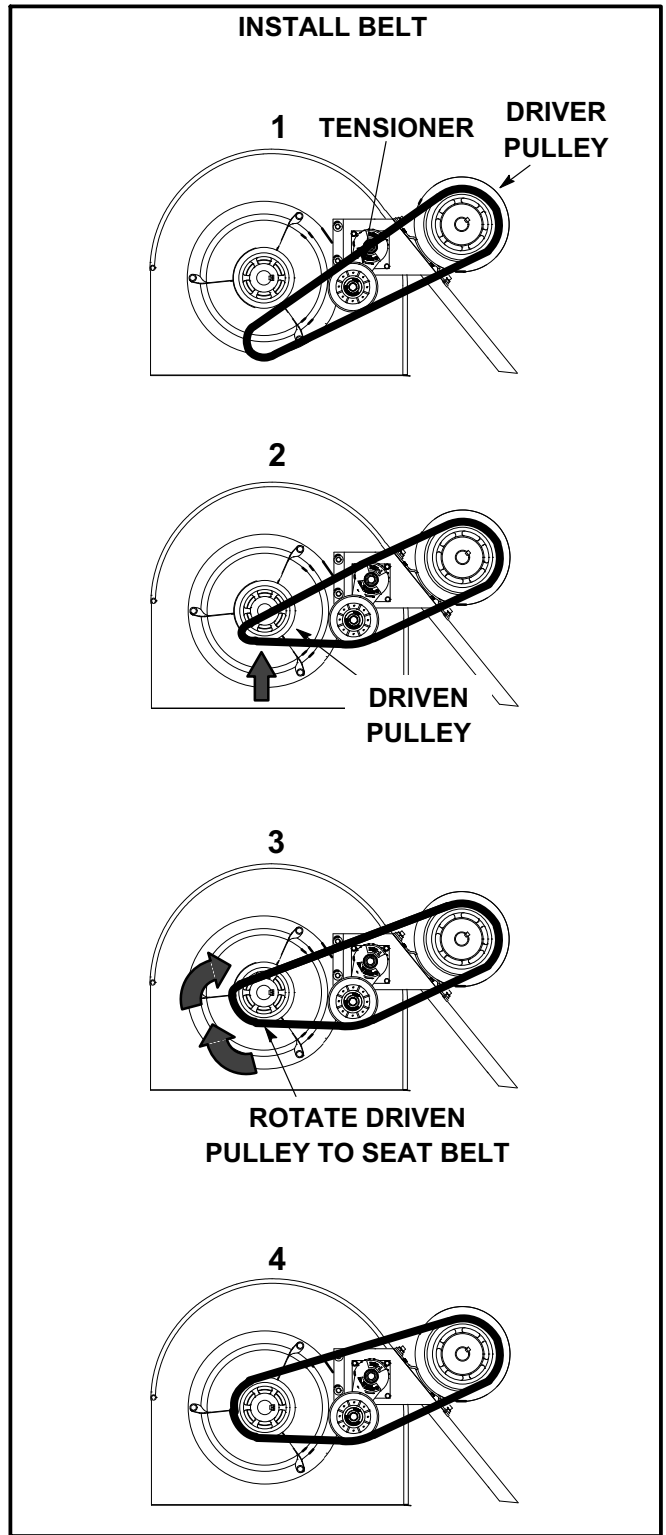

FIGURE 25
- 6- Replace blower belt. See figure 25.